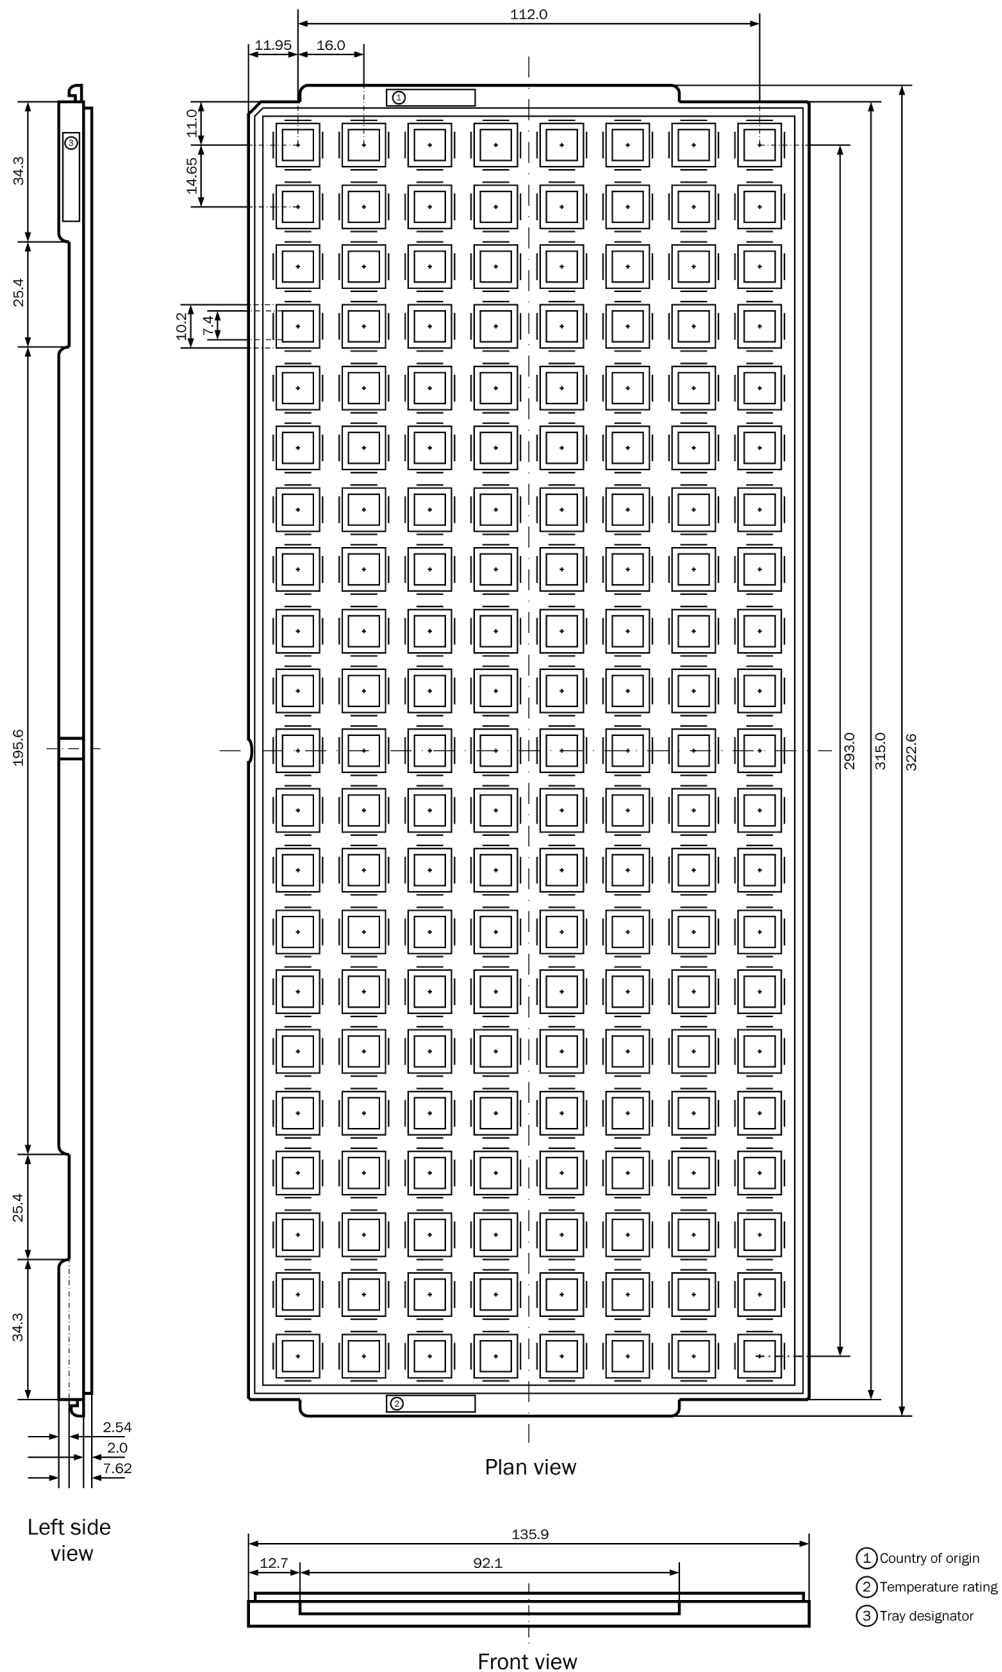

Figure 8.2: Matrix tray 8×12 for QFN88-10×10²
- Figure 8.2 "Matrix tray 8×12 for QFN88-10×10" was added